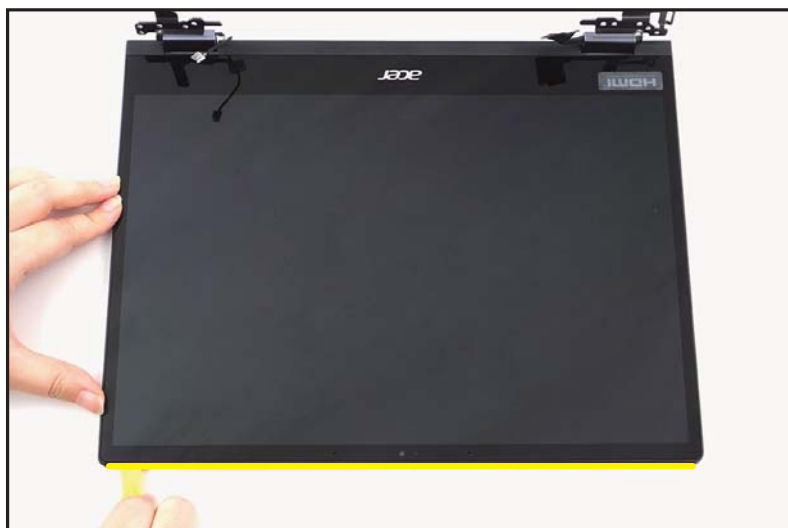

Figure 1-36. LCD Panel Removal
2. Continue along the upper side of the LCD panel (Figure 1-36).